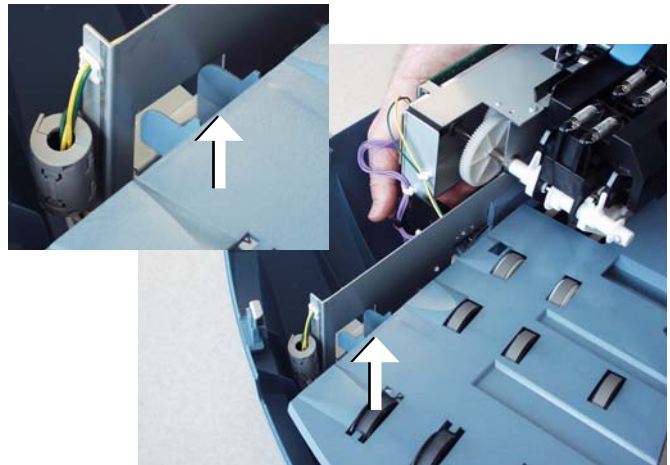

Figure 5-88 Feed Deck Mounting Tab
5. Carefully remove deck. Maneuver the deck tabs out of their corresponding holes in the feed unit frame as shown in Figure 5-88, next page.